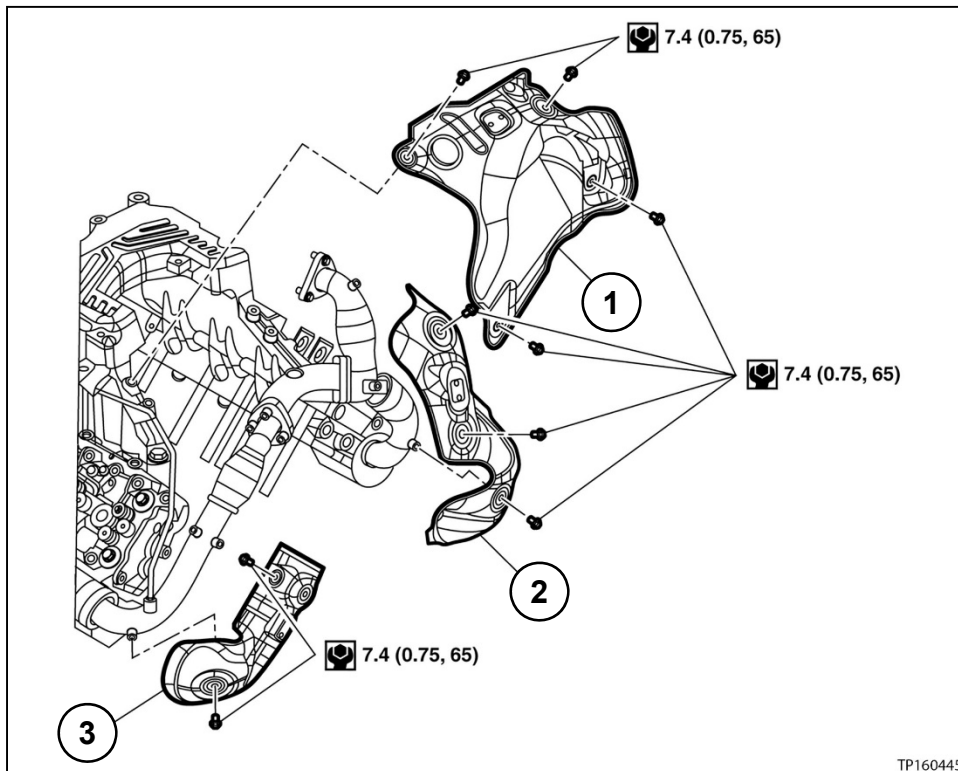

Figure 112
46. Install all three (3) heat shields, center heat shield last (see Figure 112).